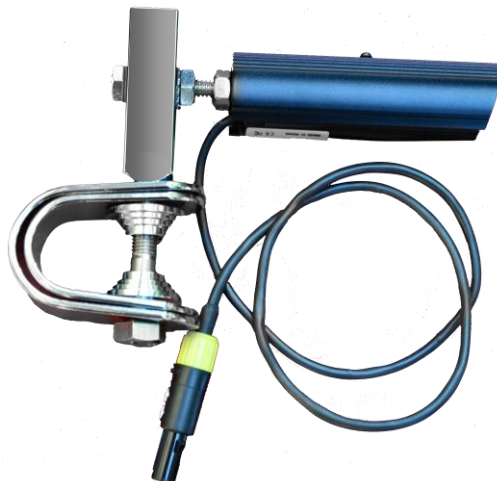

Figure 6: Bullet Camera with Swivel Mount
- 1 Install the Swivel Mount (Figure 6), supplied with camera, to the underside of the Light Strobe. Drill three 1/8" holes in strobe base. Use camera Swivel Mount base as a template.